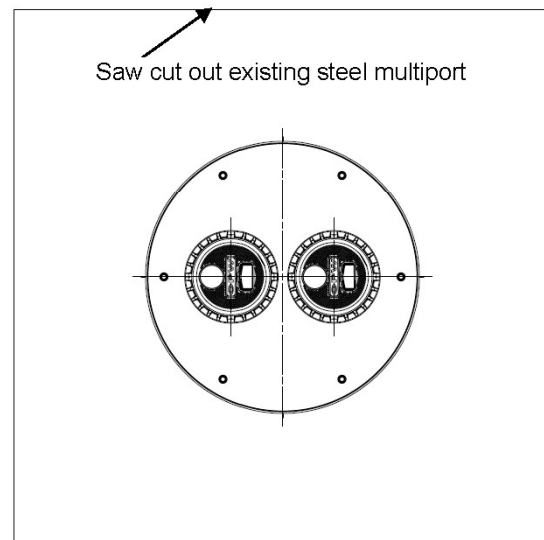

Figure 26
44. Saw cut out existing steel multiport. Frame on new composite FL100 multiport is approximately 45 inches in diameter. Ensure saw cut is large enough to accommodate new frame (approximately 7 feet square). See Figure 26.